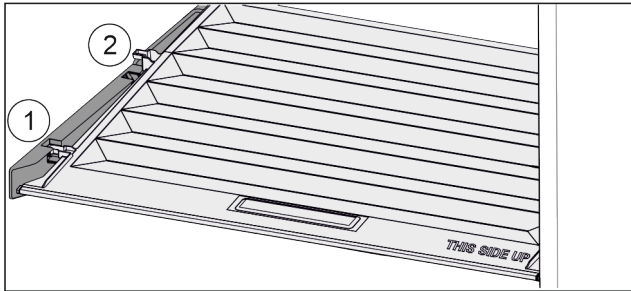

Fig. 56
- ▶ Pull the lid up at the front in the retaining parts to the opening *Fig. 56 (1)*.
- ▶ Lift from the back and pull it up and out *Fig. 56 (2)*.